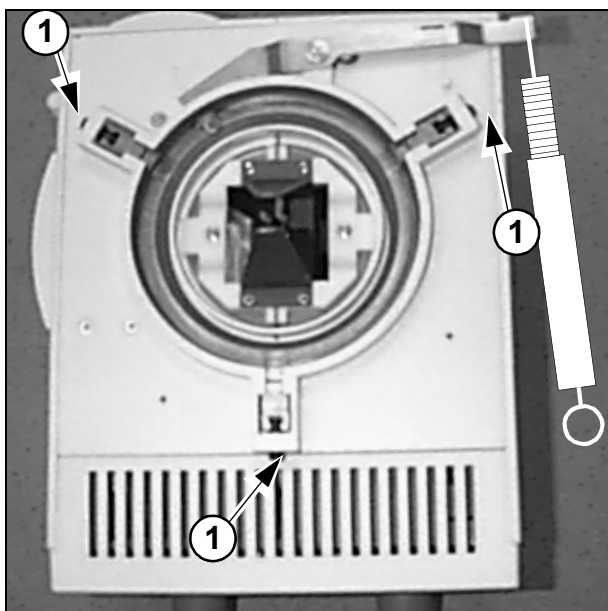

Fig. 17
- Check for easy rotation movement. The force on the spring balance as shown in Fig.17 must be 60 - 70 N (see Adjustment Instructions).
- Adjust the tightness of the mounting screws (1/ Fig. 17) per the Adjustment Instructions.